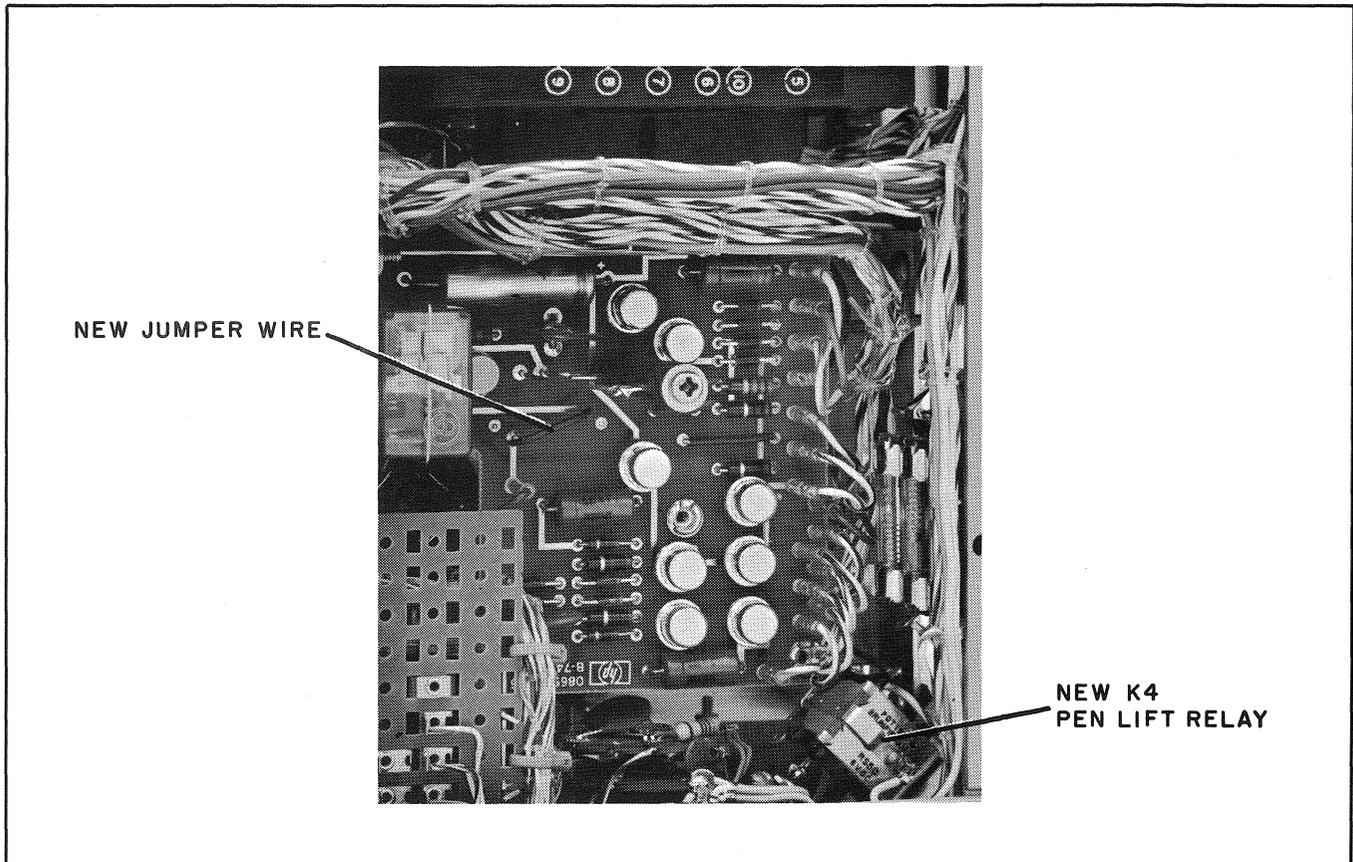

Figure 1. Installation of Jumper Wire on A9 Board
4. Solder a brown jumper wire on the top side of the A9 Board as shown in Figure 1.